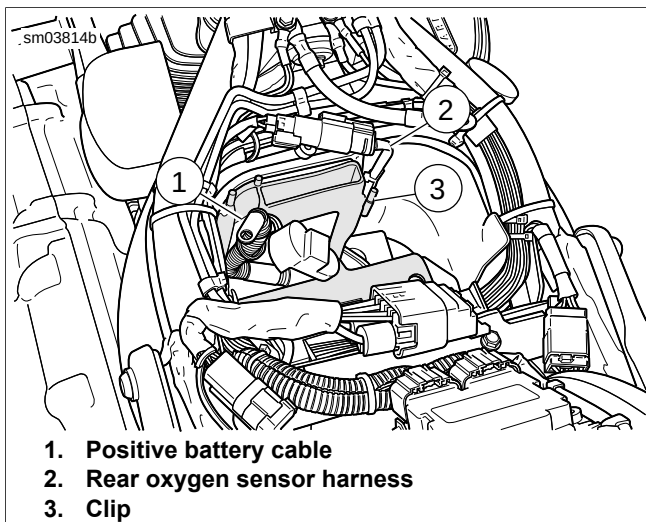

Figure 1-53. Battery Caddy Wire Routing
- See Figure 1-53. Install positive battery cable (1) into clip in caddy. Place an S-shaped bend in the positive battery cable at the starter end of the cable. This will help properly position the terminal end for battery installation.
- Route rear O2 sensor harness (2) through clip (3).